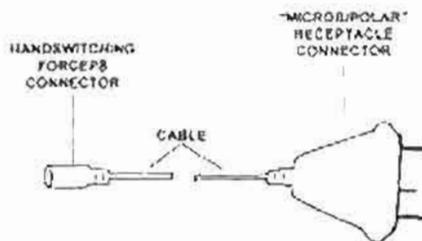

Figure 1-8. Handswitching forceps cable assembly.
f. *Handswitching forceps cable assembly (fig 1-8)*. The cable assembly consists of a three-conductor electrical cable, a forceps-compatible female connector, and a molded connector configured to fit only the "MICROBIPO-LAR" receptacle. The cable assembly can be sterilized and reused.